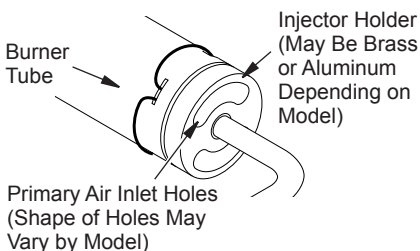

Figure 40 - Injector Holder On Outlet Burner Tube
3. Inspect burner, pilot, and primary air inlet holes on injector holder for dust and dirt (see Figures 40 and 41).